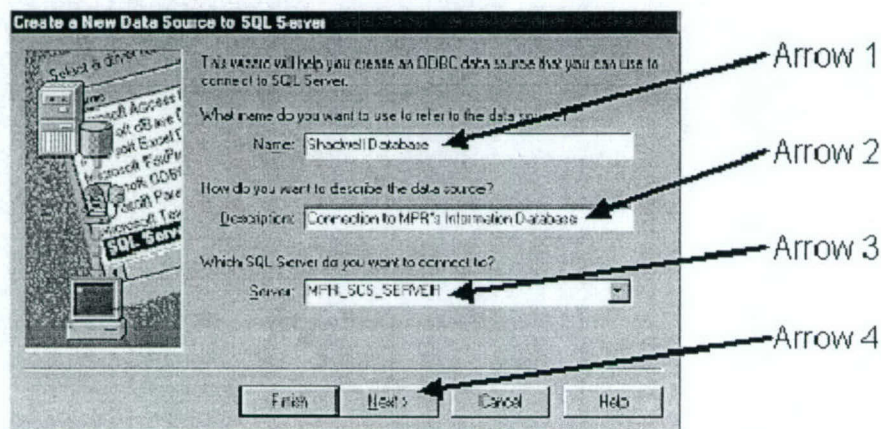

Figure B-3. Create a New Data Source to SQL Server Window (Screen 1)
8. Fill out the name of the data source as "Shadwell Database" (Figure B-3 – Arrow 1).
9. Fill out the description field with a useful description of the data source, such as the text in the description field (Figure B-3 – Arrow 2).
10. Fill the SQL server field with the name of the server computer that contains the database. In this case, enter "MPR_SCS_SERVER" to connect to the SCS Common Database (Figure B-3 – Arrow 3).
11. Click the "Next" button (Figure B-3 – Arrow 4).